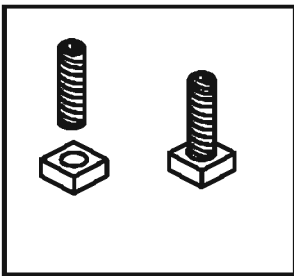

Figure 20.1
1. Thread Allen bolts through nuts until flush. **Figure 20.1.**